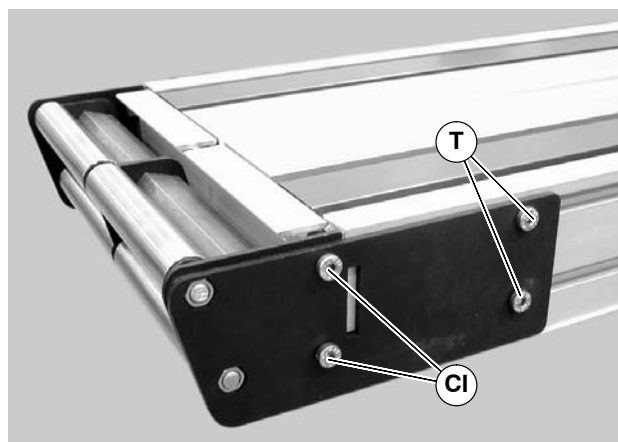
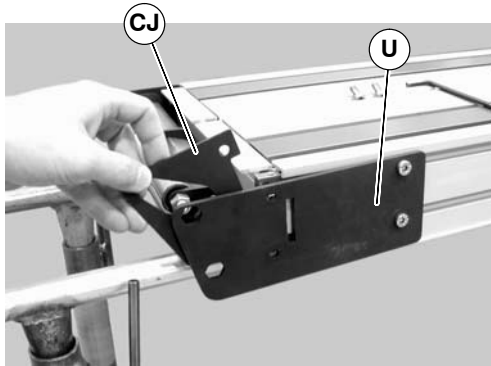
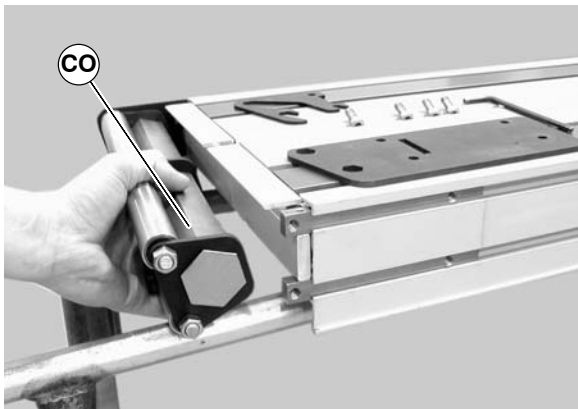

Figure 66
Figure 67
Figure 68
2. On one side of conveyor, loosen the two (2) back fastening screws (T of Figure 66), and remove the two (2) front fastening screws (CI).
3. Pull back the outer headplate (U of Figure 67) and remove the inner spacer (CJ).
4. Slide the transfer tail pulley assembly (CO of Figure 68) out of the headplate on the opposite side.
NOTE: Transfer tail assembly must be removed as on piece. Removal may require removing screws T of Figure 66 and headplate U of Figure 67 as shown in Figure 68